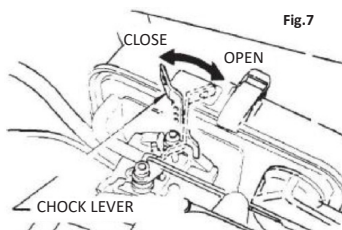

Fig.7
- Close the choke lever (Fig 7) and move the throttle lever to the Full Open position. Turning the choke lever 90 degrees clockwise closes the choke. In cold weather, start the unit with choke fully closed. In warm weather or when the engine is warm, the unit can be started with choke halfway or completely open.
- If engine fails to start, move the choke lever (Fig 7) to the half open position to avoid flooding.